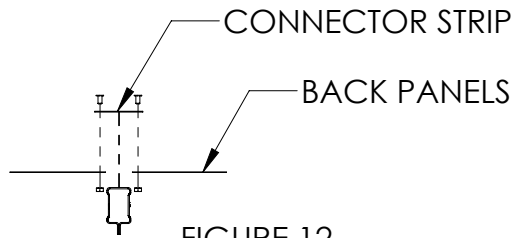

FIGURE 12
**NOTE:** In some requirements, Back Panel Connector Strip may be used rather than Combination Clip in back-to-back units. In those cases, see Figure 12 for attachment details. Consult with Hollowell to determine the components supplied.